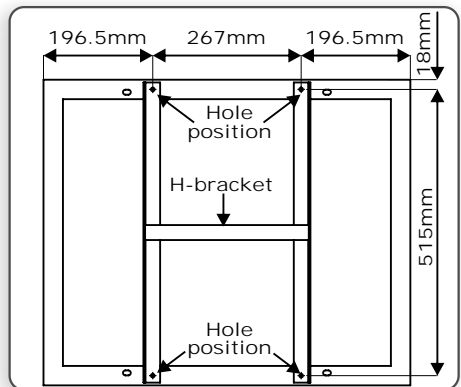

FIGURE 16
- Align the H-bracket in the centre of the panel and proceed to mark the location of the four mounting holes. Figure 16 provides an indication of where the holes are to be drilled.